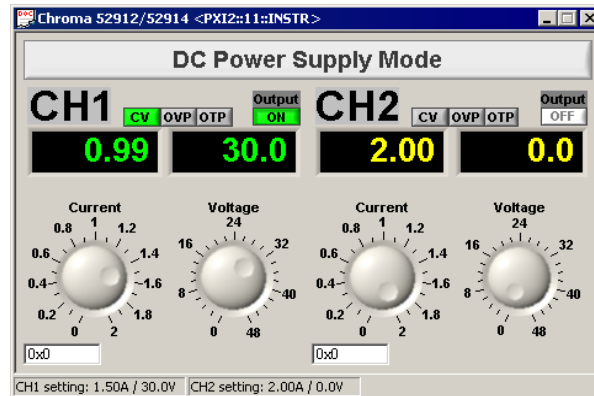

Figure 4-8 Channel 1 Output condition I
2. After current/voltage are set, click on the  button to enable the output relay. Then, all the readings will be displayed in the *Edits* in the color of green. (See Figure 4-8)